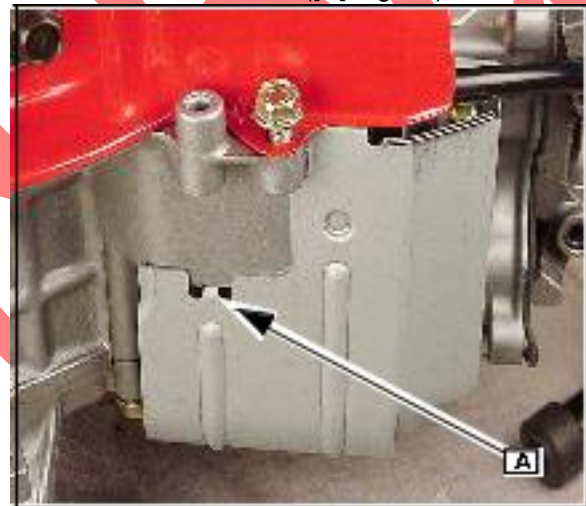

Fig. 11
12. Assemble shield ([A] Fig. 11) as shown.